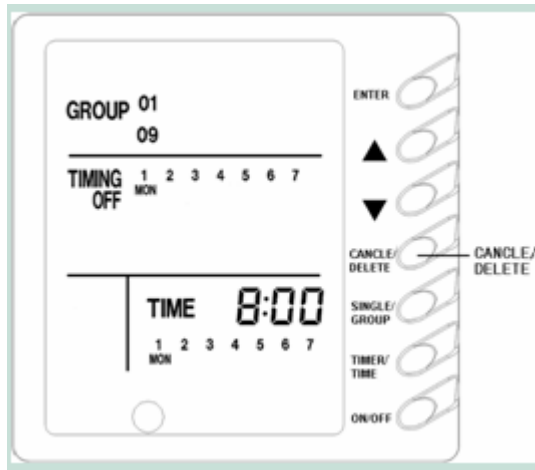

Fig.13
6) To cancel timer at a certain day, long-press “**cancel/delete**” in process 3) and “**TIMING OFF**” displayed. It is available to select other days to conduct timer setting (fig.13).
E.g.: In fig.13, timer setting at Monday for unit 1 and unit 9 is deleted.